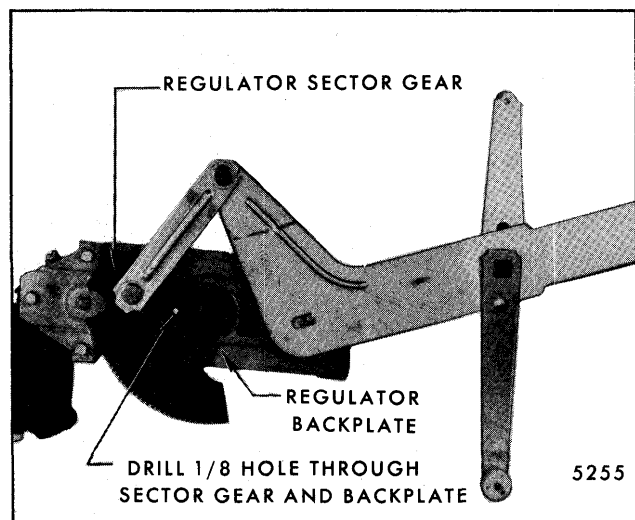

Fig. 5-23-Front Door Window Regulator Motor Removal
2. As a bench operation, drill a 1/8" hole through the regulator sector gear and back plate (Fig. 5-23). **DO NOT** drill hole closer than 1/2" to edge of sector gear or back plate. Install a pan head sheet metal tapping screw (No. 10-12 x 3/4") in drilled hole to lock sector gear in position.